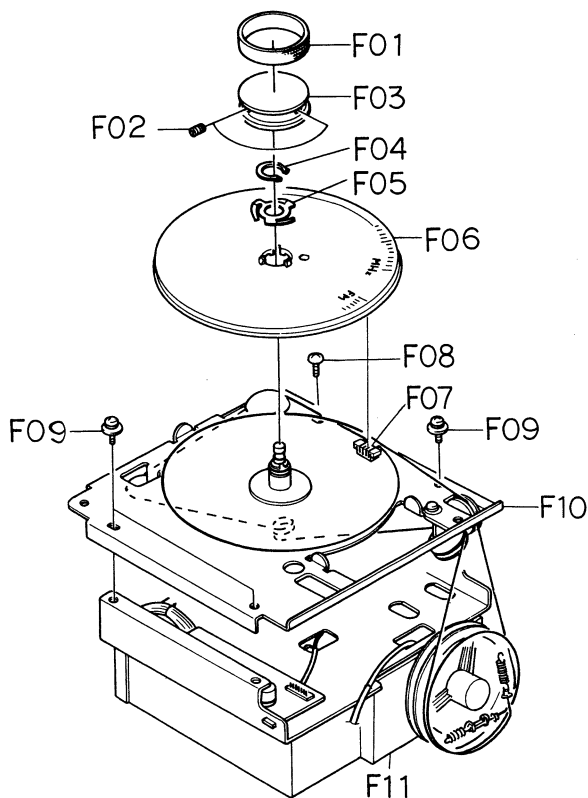

Fig. 3.4
Refer to Fig. 3.4. Remove front panel ass'y referring to item 3.1. Remove F02 (rubber ring) and loosen F03 (Screw M3x6 hex. socket head), then remove F03 (tuning knob). Remove F04 (C-ring) and F05 (dial spring), then F06 (dial pulley ass'y US). Remove bonded F07 (dial thread ass'y) from F06. Remove F08 and F09, then F10 (dial chassis ass'y) from F11 (FE chassis ass'y).